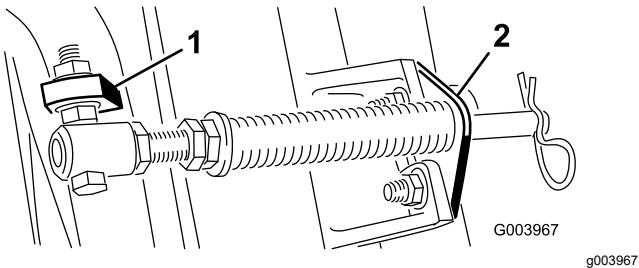
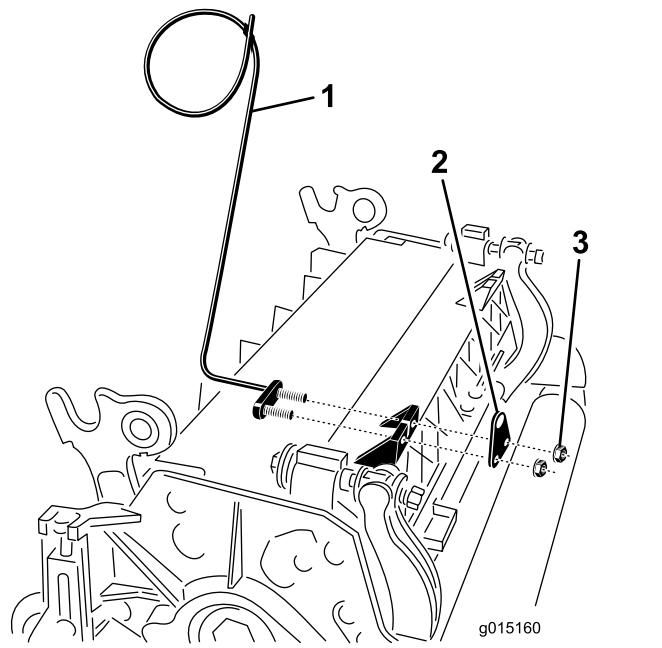

Figure 11
Figure 13
- C. Mount the spring tube bolt to the opposite tab on the carrier frame and secure with the flange nut. The bolt head is to be positioned to the outer side of the tab as shown in Figure 11.
D. Mount the rod bracket to the cutting unit tabs with the carriage bolts and nuts (Figure 11). Also, on the cutting unit, mount the left hand hose guide to the front of the cutting unit tabs when reinstalling the rod bracket (Figure 13).